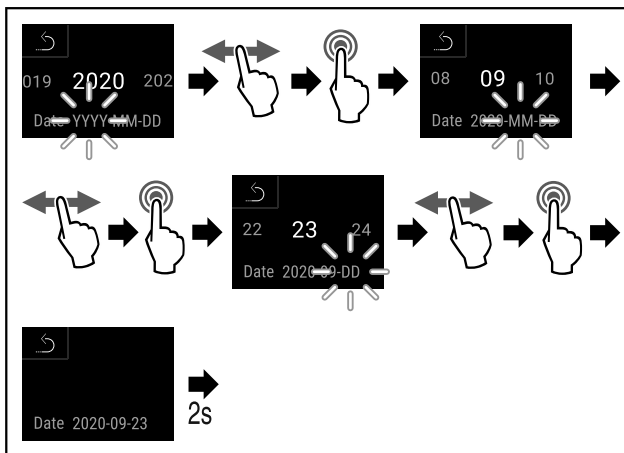

Fig. 106
- ▶ Complete steps (see Fig. 106) .